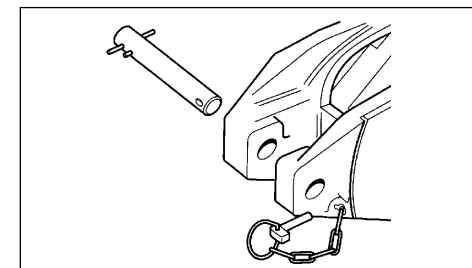

Fig.10 - Anchor pin removed.
3. Slide the anchor pin out of the side cases (Fig. 10)